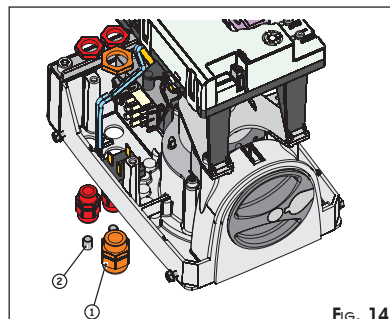

FIG. 14
- ① Install all the three supplied cable grippers with the securing nuts (Fig. 14).
- Always use the largest cable gripper (Fig.14 ref.①)
- If the other two cable grippers are not used, they must be closed, using the supplied plugs (Fig.14 ref.②). Fit the plastic plug in the cable routing hole and close the cable gripper until it is tight.